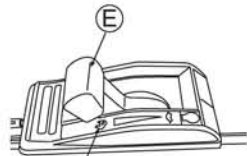

Fig. 15
2. Set Throttle lever (E) to "START" to start mowing. (See Fig. 15)